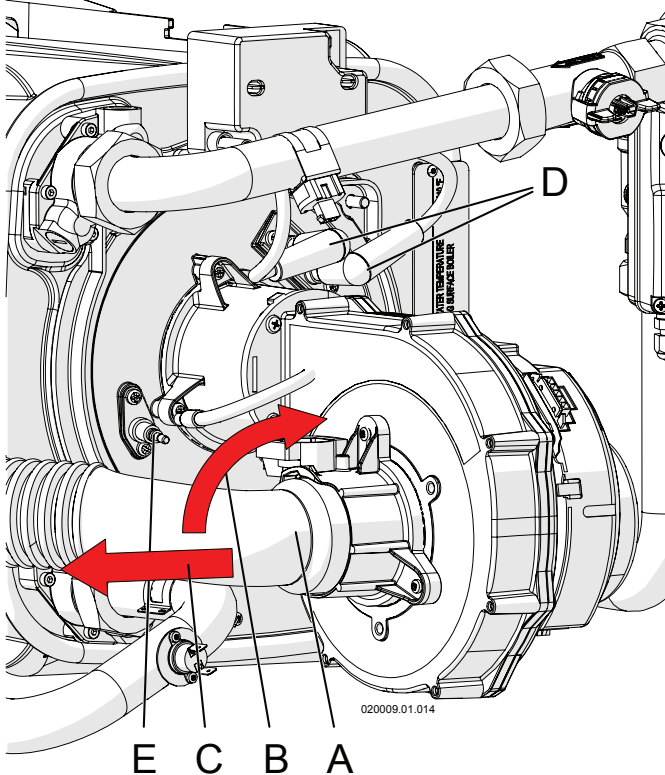

Figure 17-3 - Air manifold disassembly
- 4.- disassemble air manifold "A" in figure 17-3, turning it clockwise then removing it towards the left;